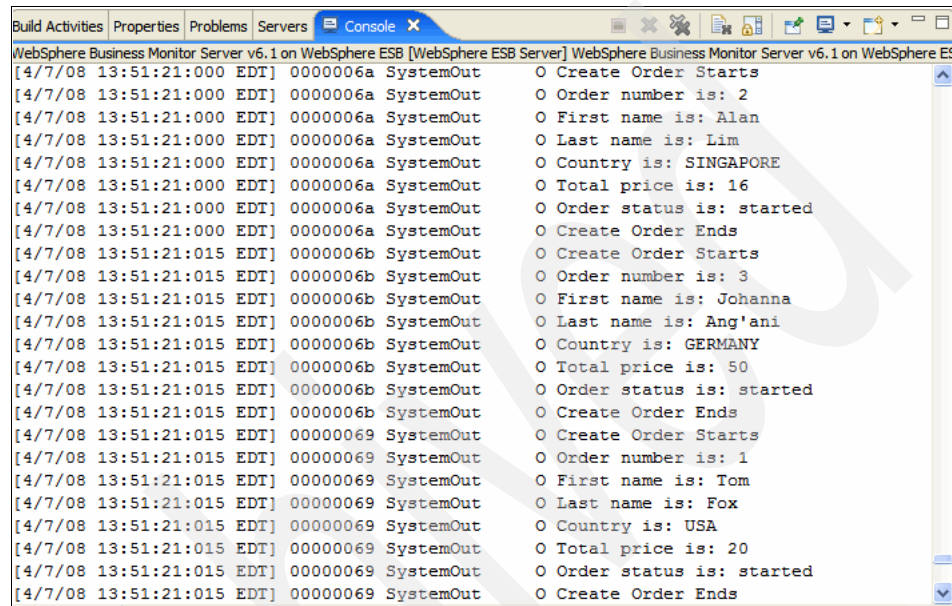

Figure 6-39 Adapter success
5. If your test is successful, the console view in WebSphere Integration Developer is displayed like the example in Figure 6-39. It indicates that the JDBCInboundInterface component detected changes to the ORDER database and that the OrderPOJO component received and sent the outputs correctly to the console.